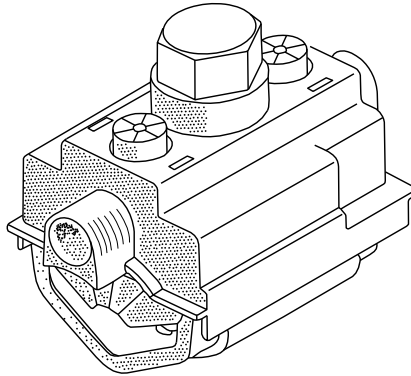

Fig 1
1. Separate the two halves of the connector (see Fig.1)